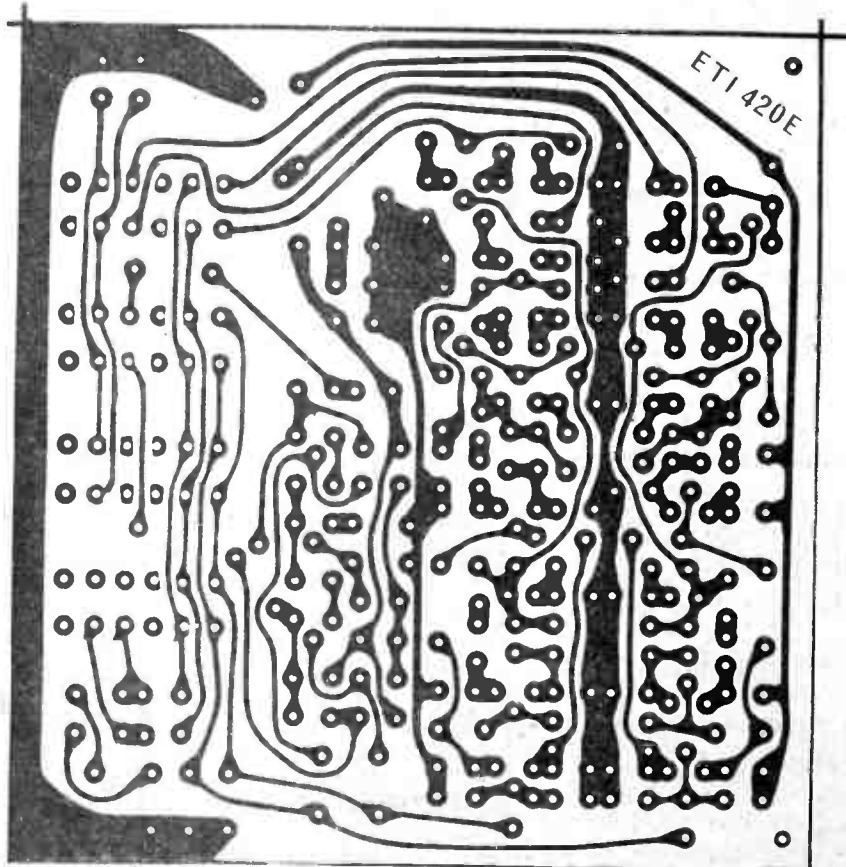

Fig.1. Printed circuit board for the decoder (full size). ▶
13. Wire up the tone controls in accordance with Fig.1. Again using Fig.1 as a guide, wire the selector switch, volume control and all input wiring.